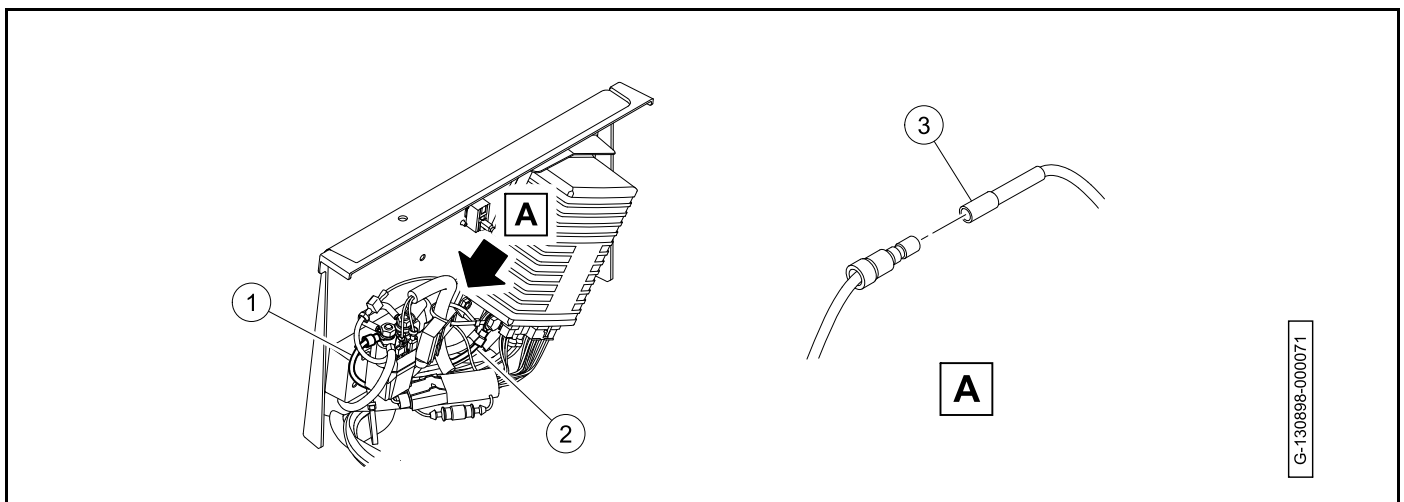

Figure 13-3
4. Remove the 10-gauge red wire (1) from the solenoid (**Figure 13-3, Page 13-3**).